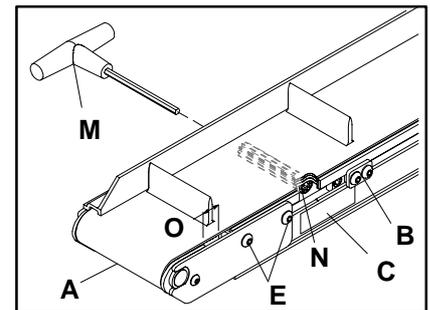
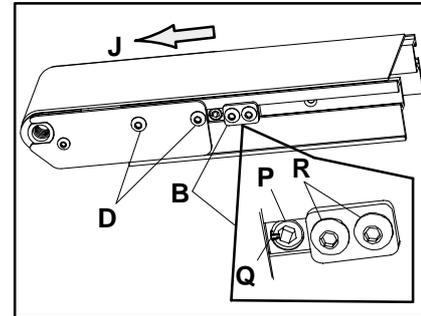

Figure 10
Figure 11
Locate the tension end (A of Figure 10) of the conveyor, identified with a label (C).
Position the belt tracking cam against the slide bar while making sure groove is correctly oriented (see Figure 11 on page 6). Proceed to the "Preliminary Belt Tracking Check" information, on page 6, before conveyor startup.
Check both ends of the conveyor for proper belt tracking. The belt should track centered between the tail plates on both ends of the conveyor. Conveyor belt tracking should always be adjusted on the discharge end of conveyor first, as indicated by the direction of belt travel arrow (J of Figure 11). Then, check the tracking on the opposite (infeed) end of the conveyor and readjust, if necessary.
Slide both belt tracking cam assemblies (B of Figure 11) as far as they can be toward the end of the conveyor.
The belt tracking cam (P of Figure 11) must be set to the low point at the point of contact as illustrated. The slot (Q), in the belt tracking cam, indicates the low point and should be pointing towards the end of the conveyor.
Only loosen the two tail cover plate screws (D of Figure 11) on the side of the conveyor that the belt is tracking toward.
With the conveyor running, use the 5 mm hex key wrench (M of Figure 10) to slowly rotate the belt tracking cam (P of Figure 11).